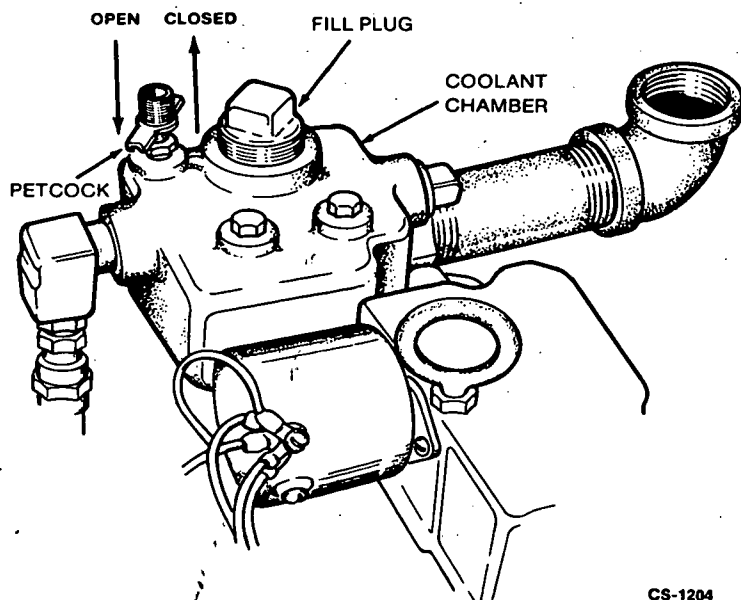

FIGURE 3. PRIMING COOLING SYSTEM
2. Remove fill plug on top of generator set engine coolant fill tank and open petcock (vent) next to the fill plug as shown in Figure 3.